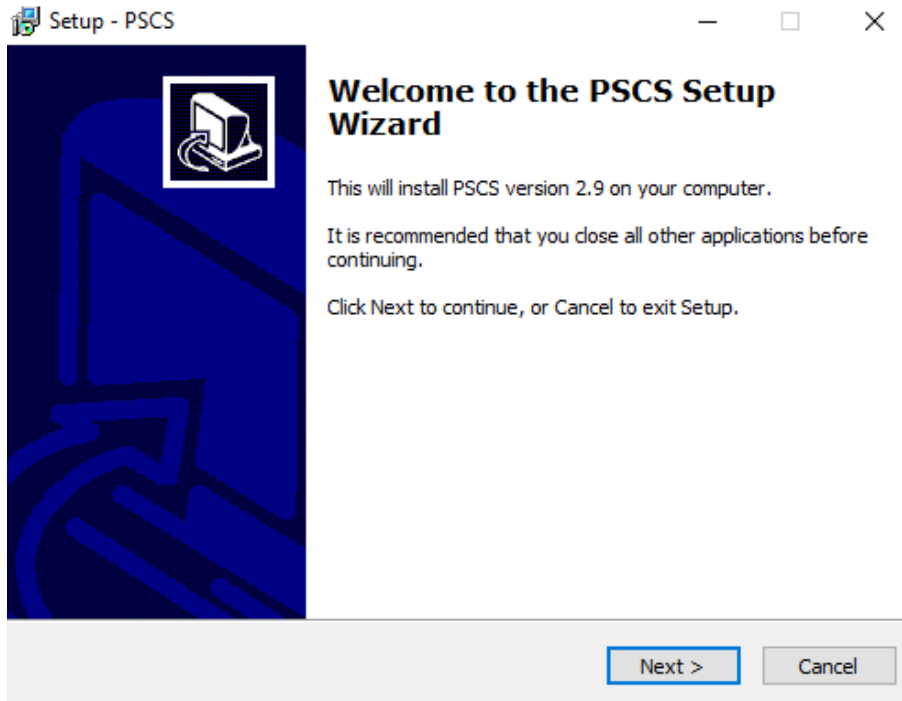

Figure 7.4
4. Click “Next” to continue. Figure 7.4